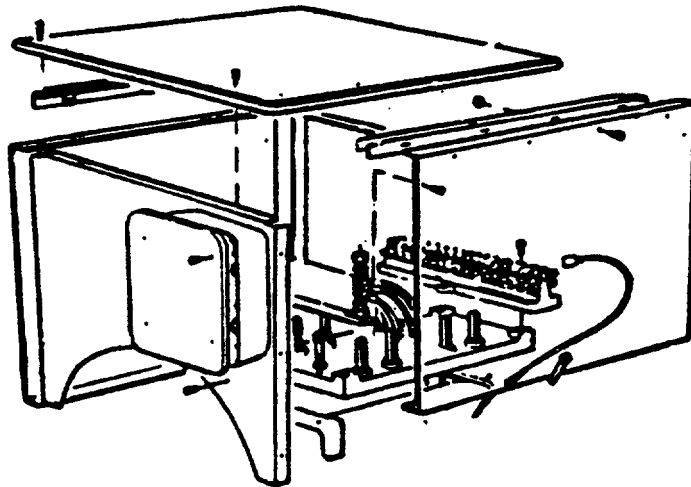

FIGURE 2-2. Generator Terminal Box
- (2) Visually check all wiring connections in the terminal (conduit) box (Figure 2-2).
- (3) Check all wiring connections on the voltage regulator for loose connections. Secure as required.